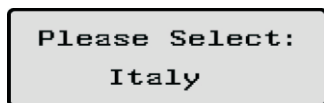
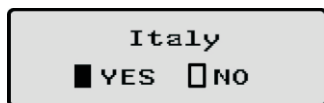

Fig 2-5-3
Fig 2-5-5
**C** When you need to select any of these countries, you can Double knock to enter the next interface. Here we select Italy as an example, as Fig 2-5-3.
**E** Single knock to select 'YES', as Fig 2-5-5.
**Note:** if you still single knock at the interface as Fig 2-5-5, the cursor will go to 'NO' again as Fig 2-5-4, then if you double knock, the display will switch to the interface as Fig 2-5-3.